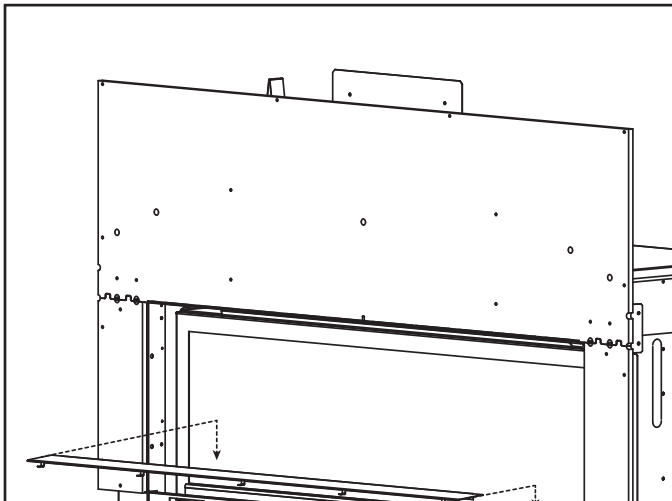

Figure 11.11. Install Bottom Glass Shield
9. Install bottom glass shield between glass and glass frame. See Figure 11.11.